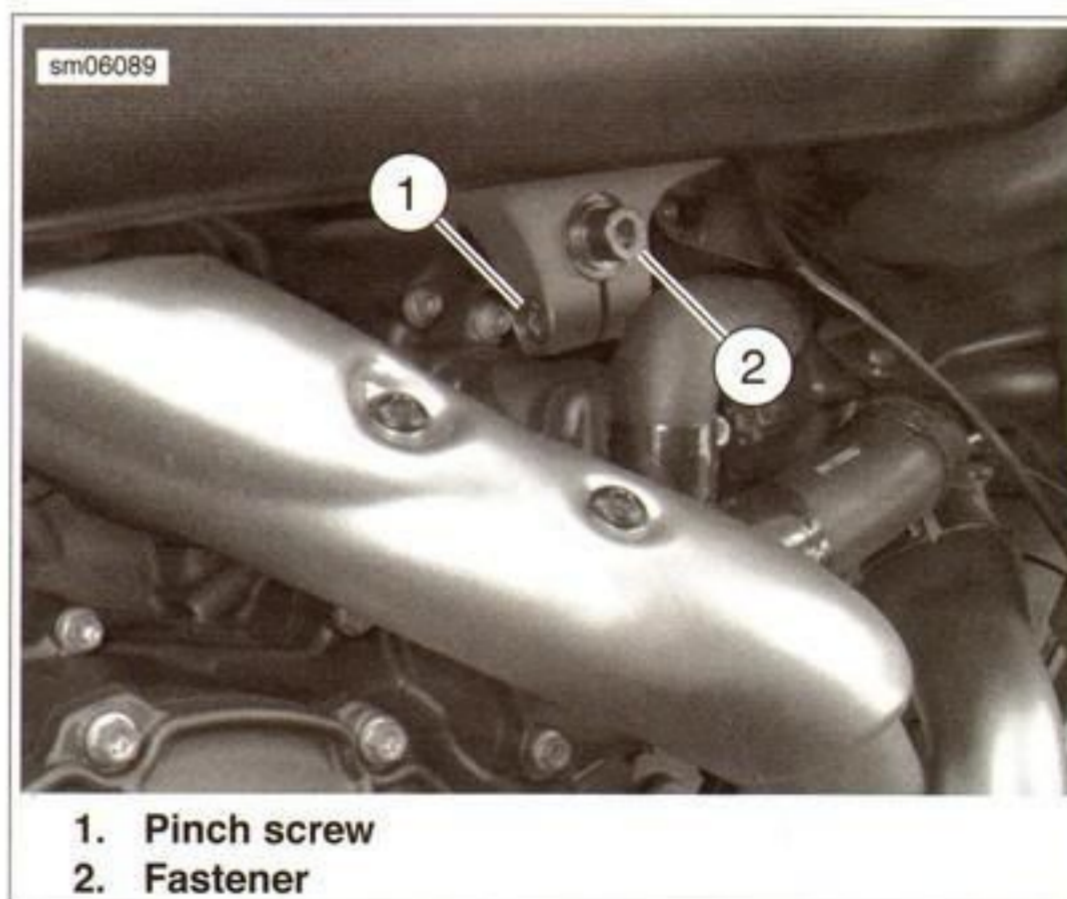

Figure 3-17. Right Motor Mount
3. See Figure 3-17. Loosen pinch bolt (1). Remove motor mount fastener (2).
4. See Figure 3-17. Install right center motor mount pinch spool and fastener (2). Do not tighten at this time.